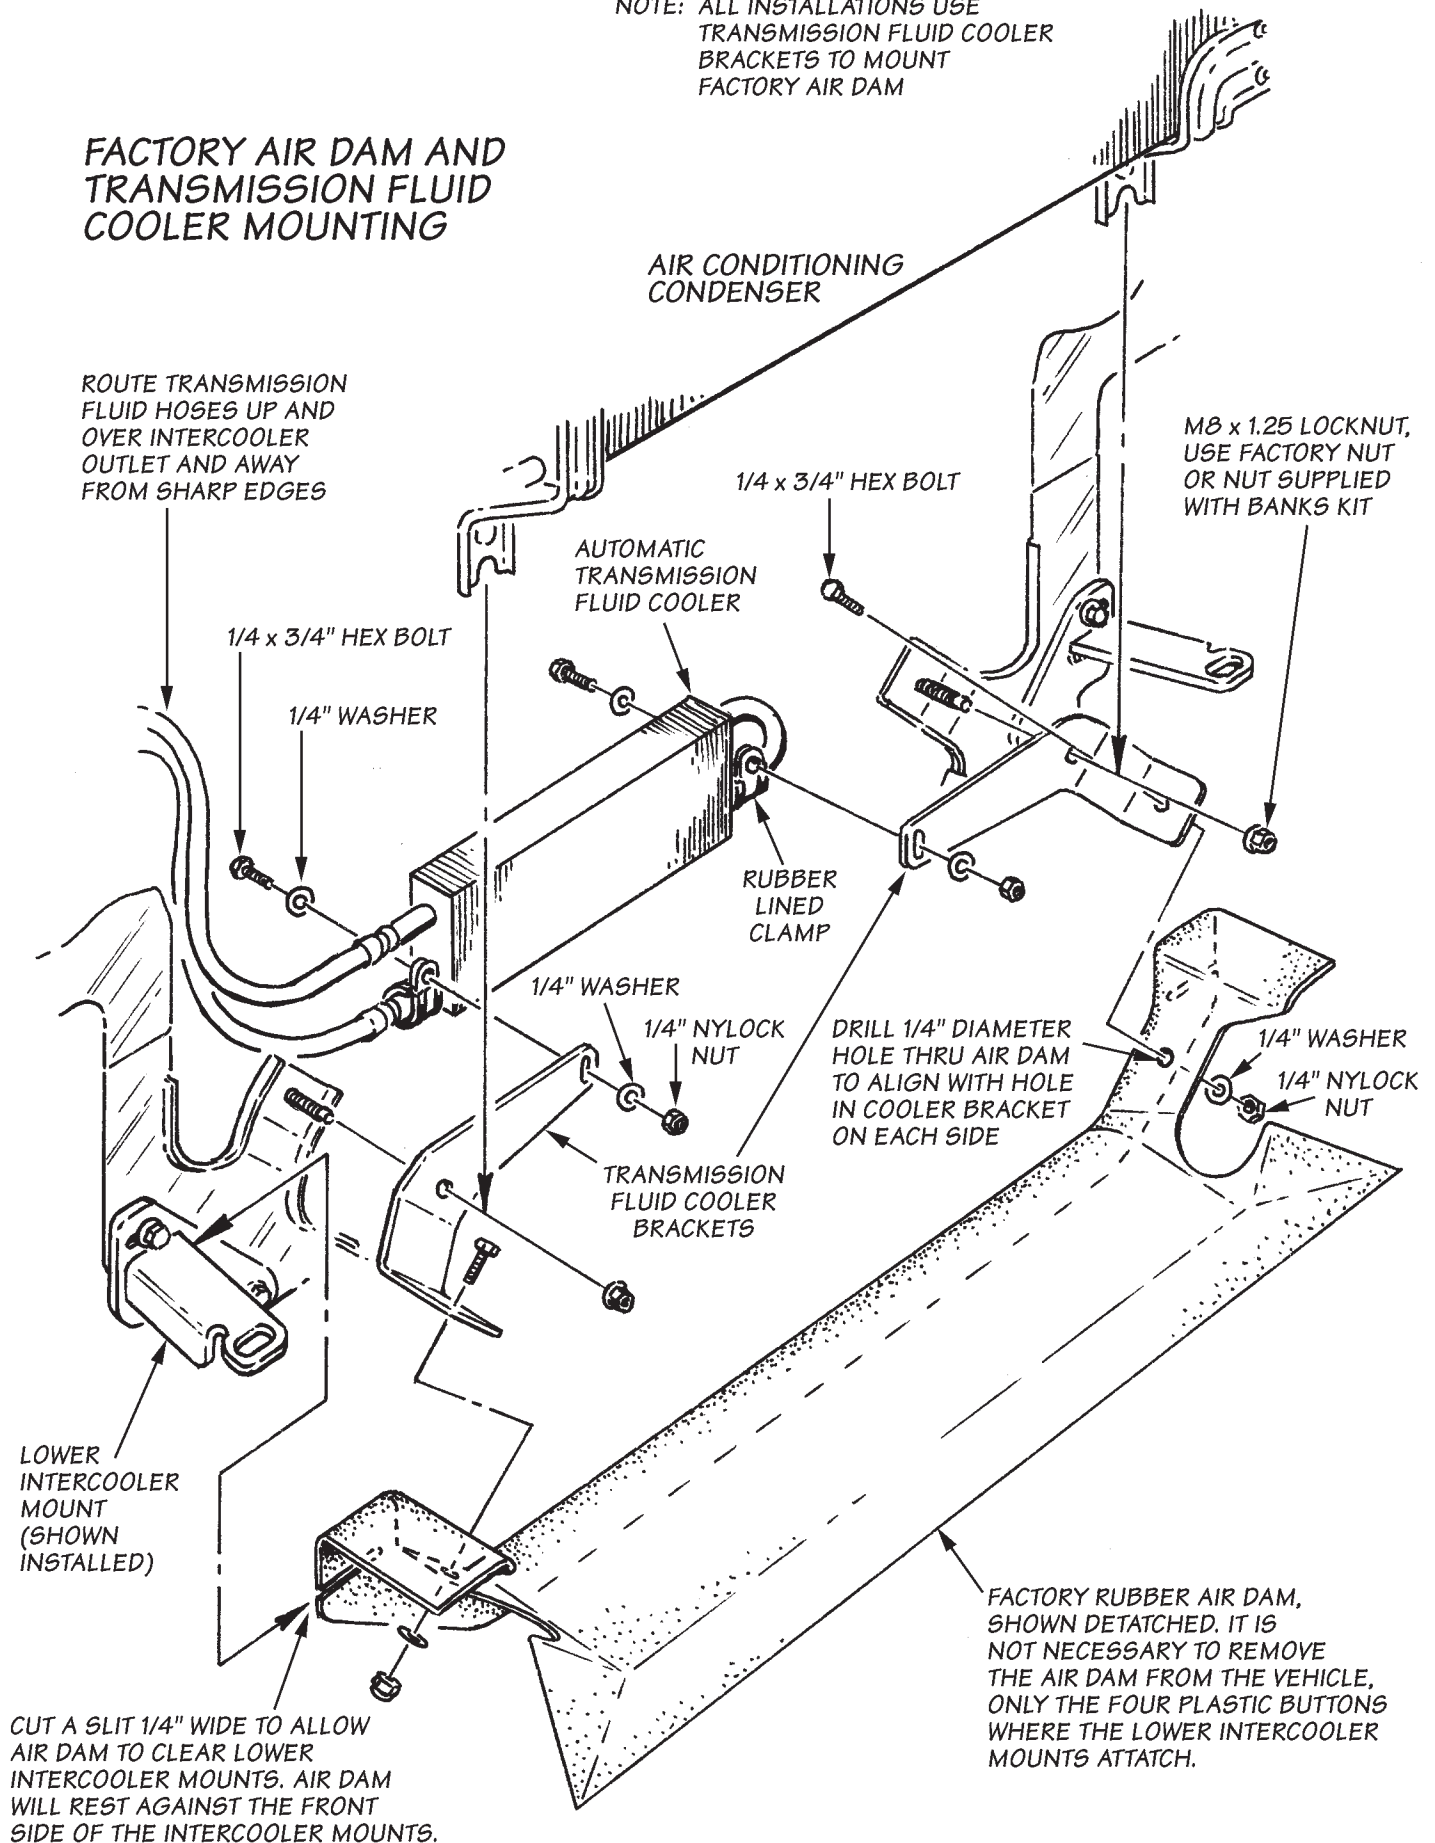

FIGURE 10
44. On vehicles with a front sway-bar crossing under and just ahead of the radiator area, unbolt the two sway-bar bushings from the bottom of the frame rails. Reinstall the bar and bushings using the 2-inch square spacers, four $\frac{3}{8}$ x $3\frac{1}{4}$ -inch hex bolts, washers, and Nylock nuts provided. **See Figure 10.**